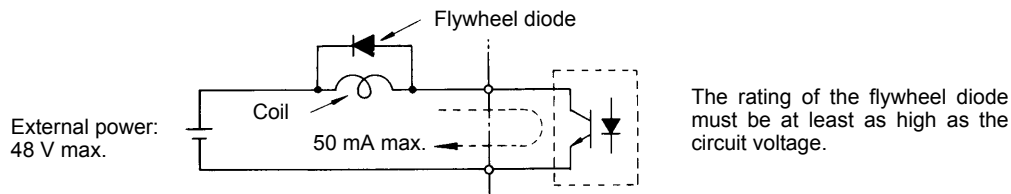

Fig 2.20 Flywheel Diode Connection
* 2. When driving a reactive load, such as a relay coil, always insert a flywheel diode as shown in Fig 2.20.